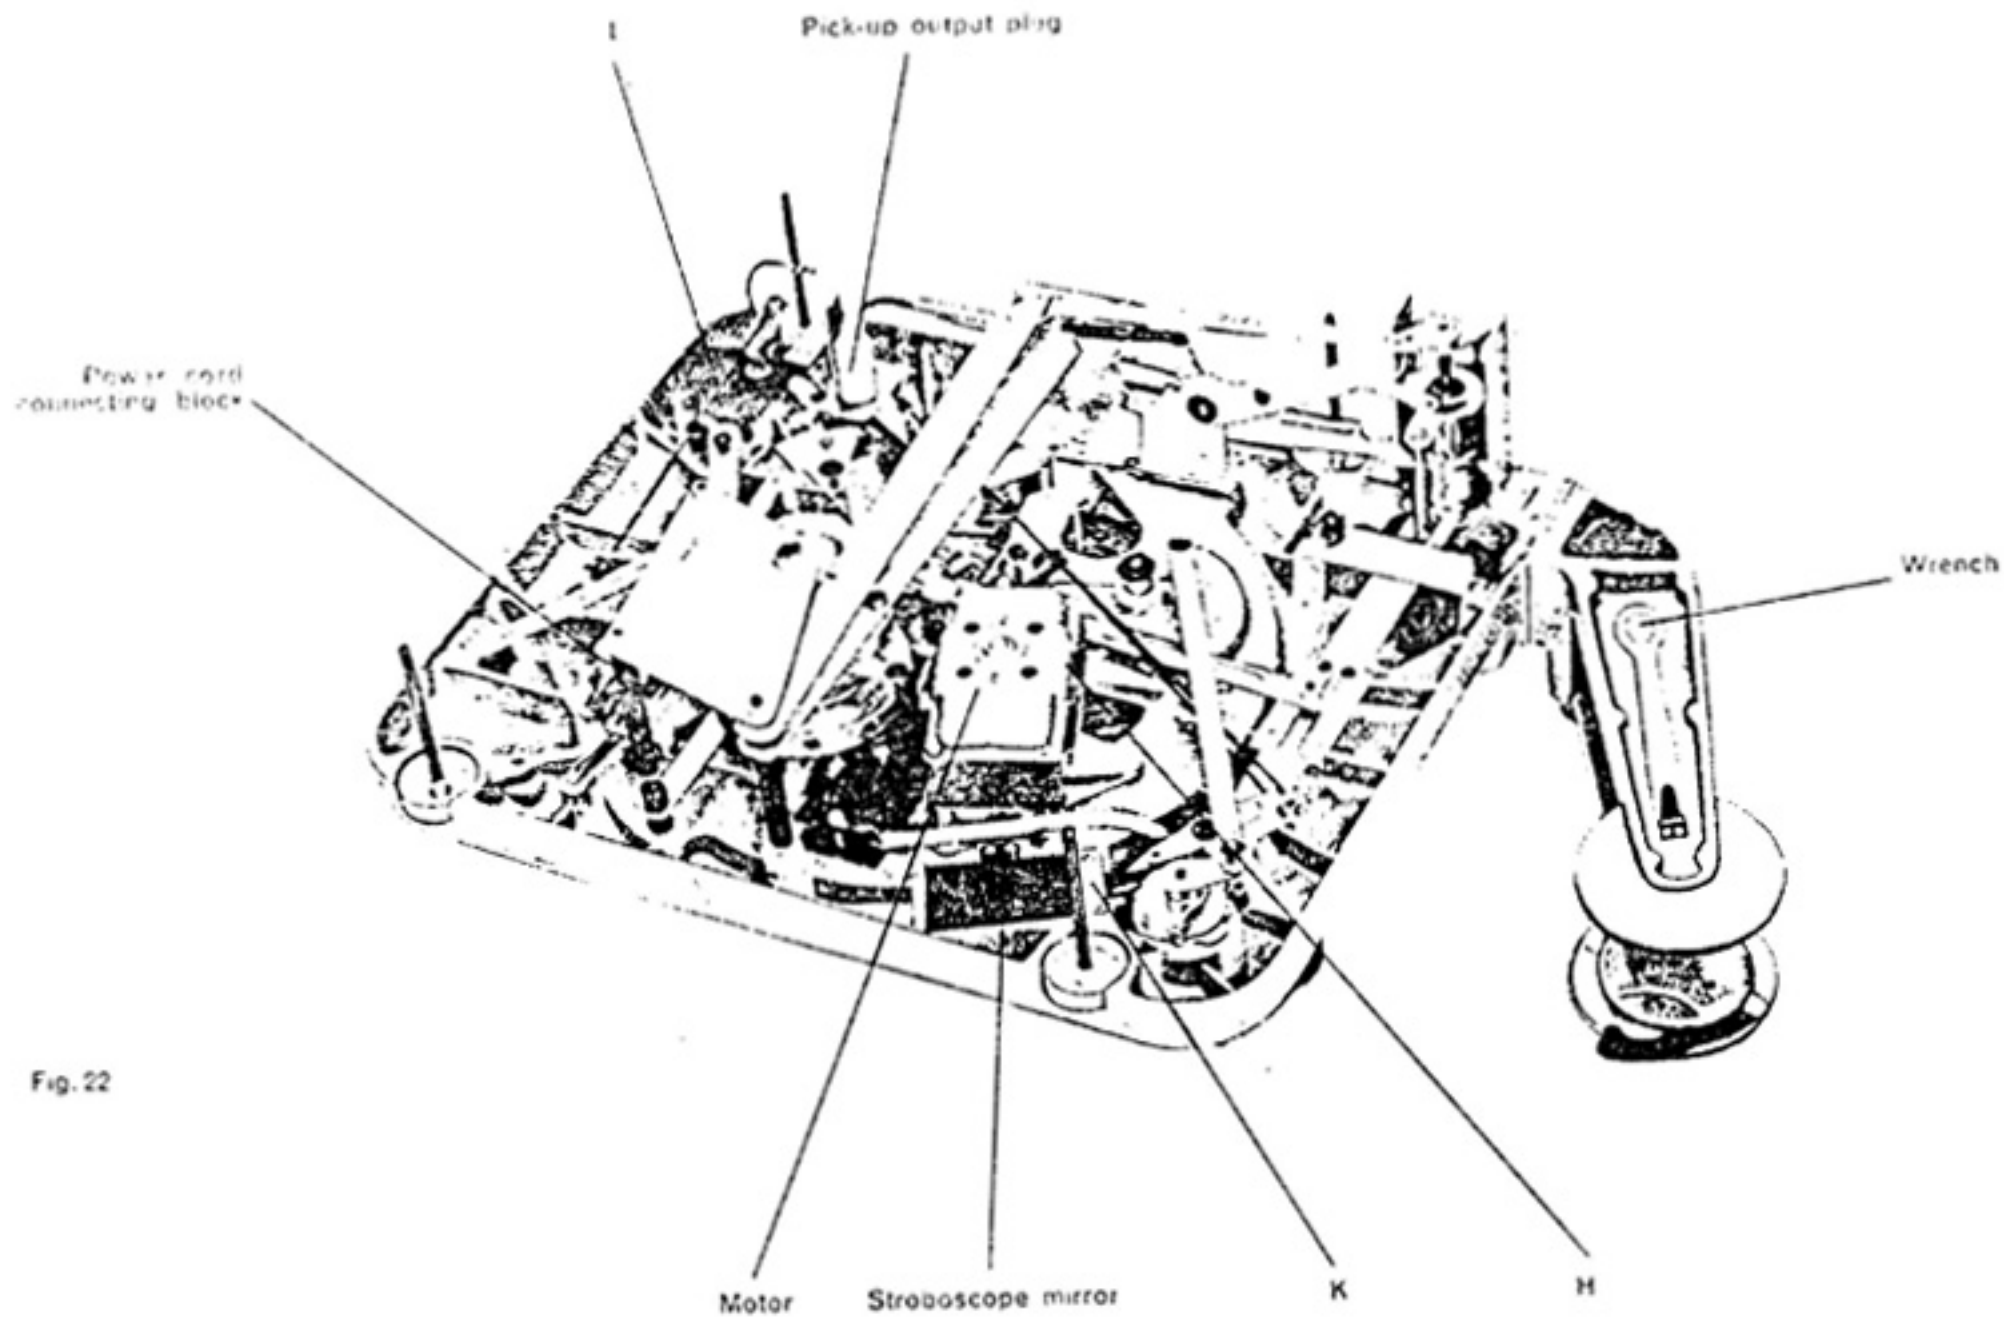

Fig. 22
Oil should be put on the lower part of the shaft, underneath the rotor. This lower part can be reached with a pressure oil can through the lubrication hole on the side of the bottom motor shield. (See Fig. 22, H.)
The pick-up arm control plate I (See Fig. 22) and the two levers of the auto-trip mechanism should not be oiled.
2. Remove the stroboscope mirror (See Fig. 22) by loosening the mounting spring.